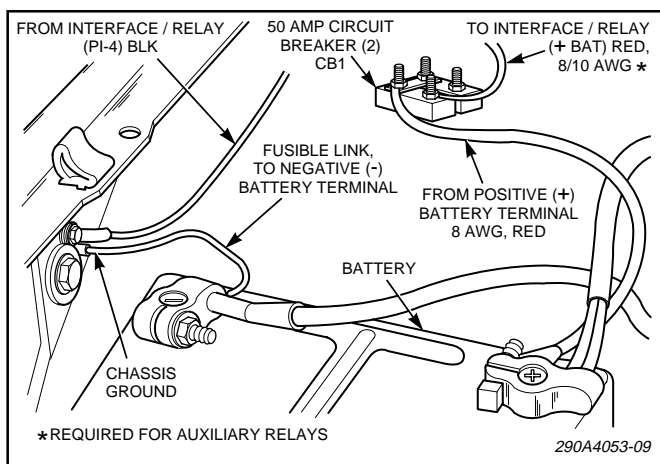

Figure 3-6. Battery Connections.
4. See figure 3-6. To protect the wire, a separate supplied circuit breaker (CB1) rated at 50/100-amperes (Federal Part No. 8474A136 or equivalent) should be connected as close as practical to the positive (+) battery terminal. When the total load current is greater than 50-amperes, use a 100-ampere circuit breaker (supplied). When the total load current is less than 50-amperes, use a 50-ampere circuit breaker.
When making the following connections, never exceed the current rating of the circuit breakers (CB1) near the battery (see figure 3-6). Failure to do this will result in a shutdown of the vehicle warning system.